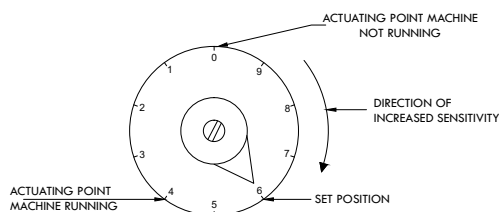

Figure A-144: Sensitivity adjustment
- A. With the equipment not running, back off the adjusting screw counterclockwise (CCW) two turns and press reset button. Then turn screw slowly clockwise until actuation occurs. This is the ZERO VIBRATION POINT, or actuating point, with the machine not running. The trip point for zero (no vibration) of the detector will occur at different points depending on its mounting orientation with respect to gravity. A mark should be made with lead pencil or other convenient means to permanently record this "zero point". Subsequent measurements are made relative to this point. See Figure A-144.